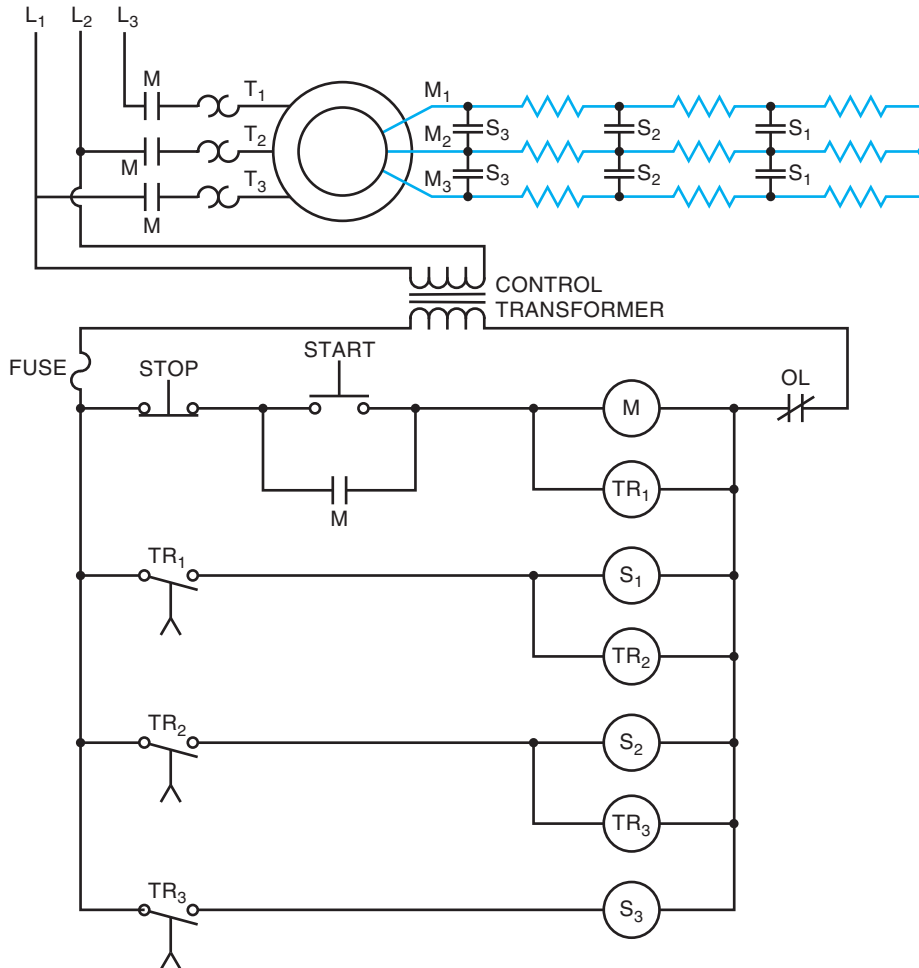

Figure 16-5
current flow to the stator. This method is known as current limit control. Another method detects the speed of the rotor. This method is known as slip frequency control. One of the most common methods uses time relays to control when resistance is shorted out of the circuit. This method is known as **definite time control**. Figure 16-5 shows a schematic diagram of a time-controlled starter for a wound rotor motor. In this schematic, the motor circuit is shown at the top of the diagram. A control transformer is used to step the line voltage down to the value of voltage used in the control circuit. The operation of the circuit is as follows:
8. Refer to Figure 16-5. Describe what would happen in this circuit if coil S1 should be open when the motor started.
9. Refer to Figure 16-5. Describe what would happen in this circuit if coil TR2 should be open when the motor is started.
10. Refer to Figure 16-5. Describe what would happen in this circuit if holding contact M should become stuck together when the motor is started and not open.